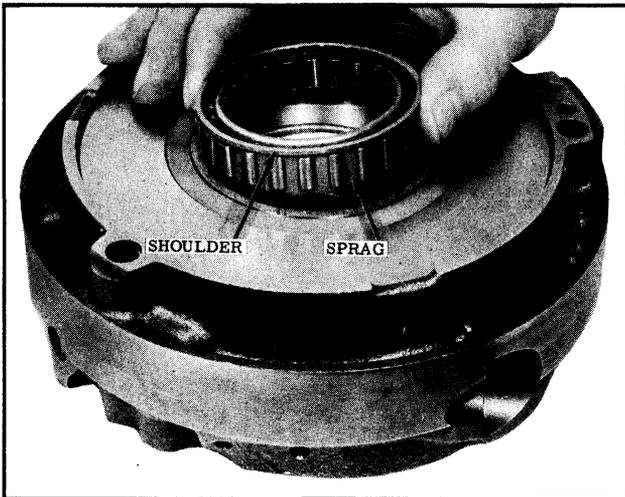

Fig. 3-103 Installing Sprag Assembly
2. Install the sprag assembly, with shoulder up, into the sprag outer race. (See Fig. 3-103)